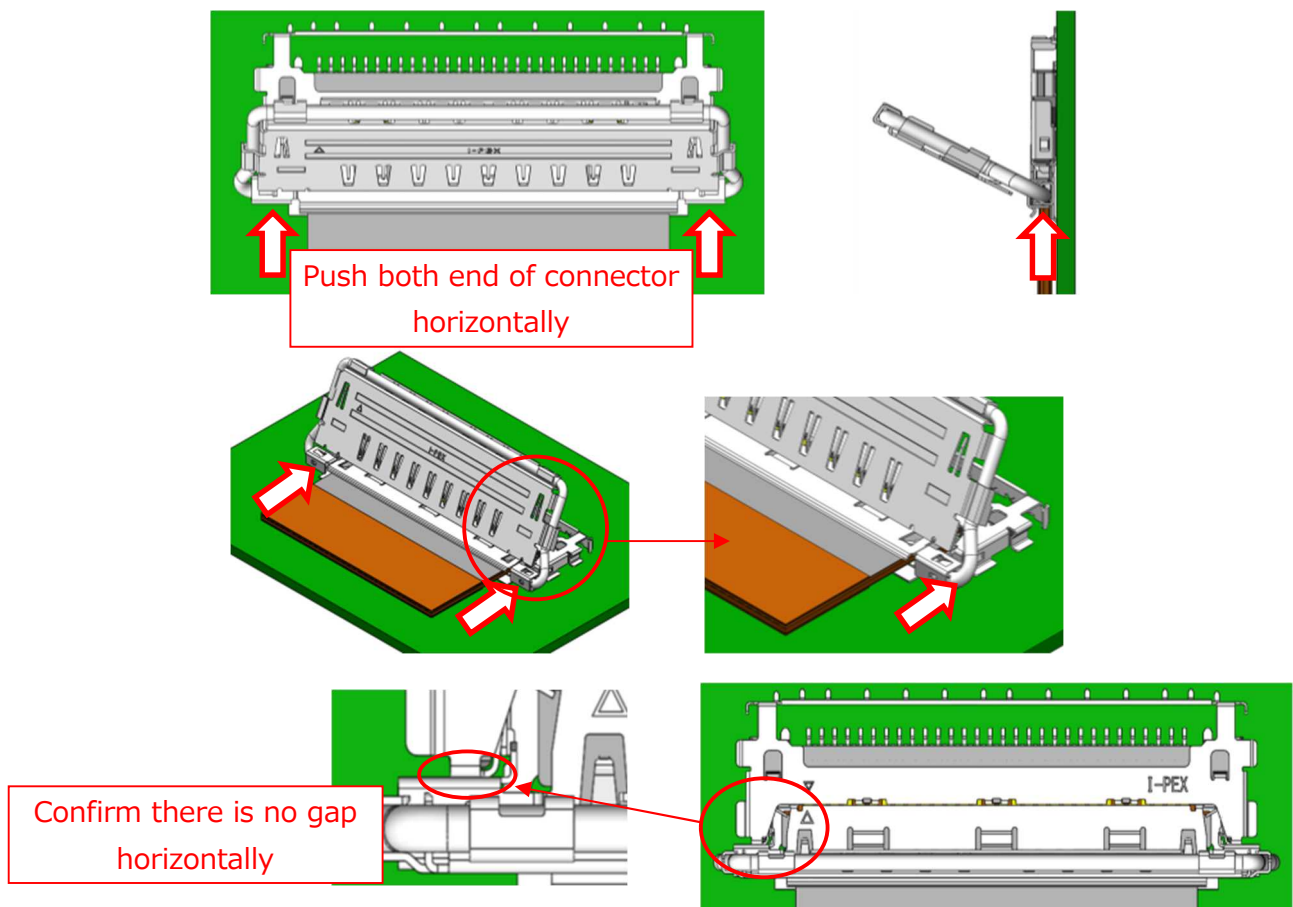

Fig 4.
- ② As shown in Fig.4, push both ends of Plug connector horizontally and confirm there is no gap.